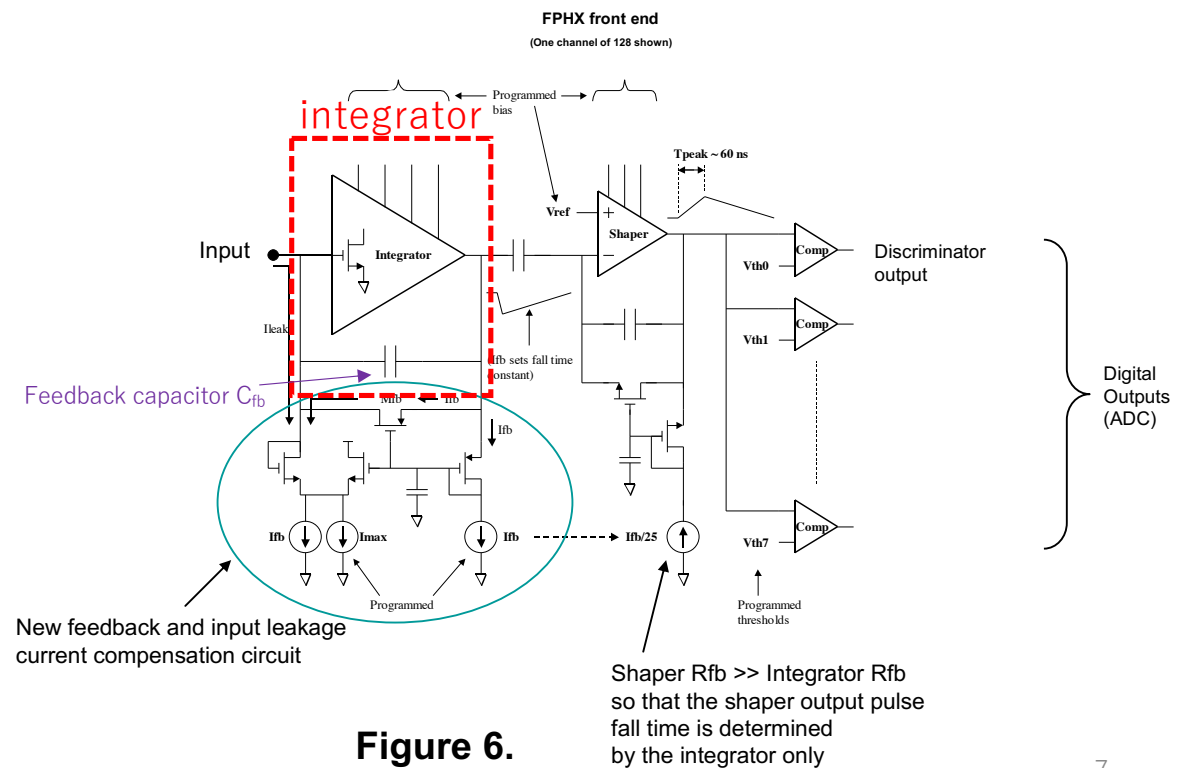

Figure 6.
- A new type of continuous reset and leakage compensation circuit has been designed for the integrator. In Figure 6, a programmable current labeled I_{fb} sets the effective reset resistance. M_{fb} acts exactly like a resistor of value $1/g_m$ for small signals, where g_m depends directly on I_{fb} since M_{fb} is in weak inversion. This programmed resistance, in conjunction with the feedback capacitor, sets the RC fall time (return to baseline) of the shaped signal. For large signals, when the output swings more than a hundred mV or so, M_{fb} no longer looks like a resistor, but a constant current source. The return to baseline then becomes linear until the output approaches the reset level, at which point it becomes an exponential RC decay again.